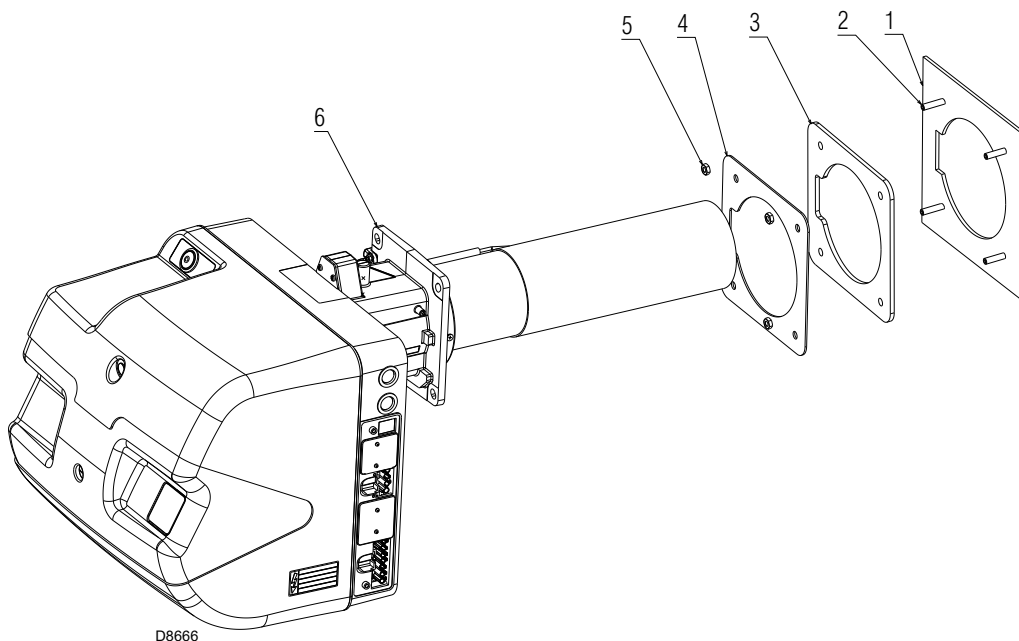

Fig. 20
- Screw the studs 2)(Fig. 20) onto the boiler plate 1);
- fix the flange of the burner (Fig. 20) to the boiler plate and tighten the nuts 5)(Fig. 20).